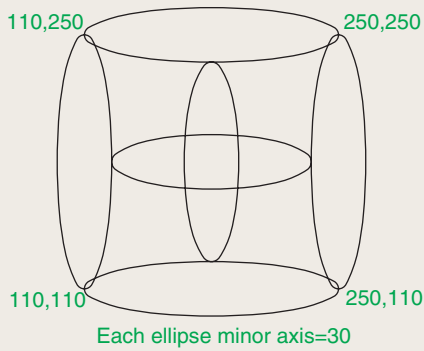

Fig. 3.49 Exercise 5
5. With the **Ellipse** tool, construct the drawing Fig. 3.49.